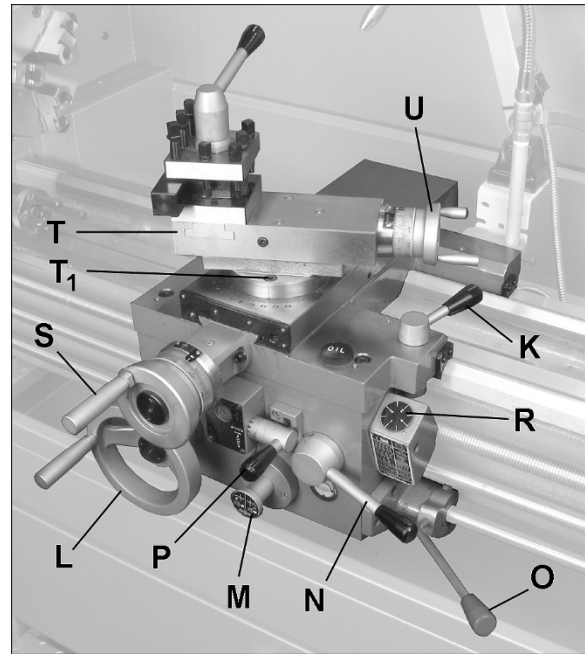
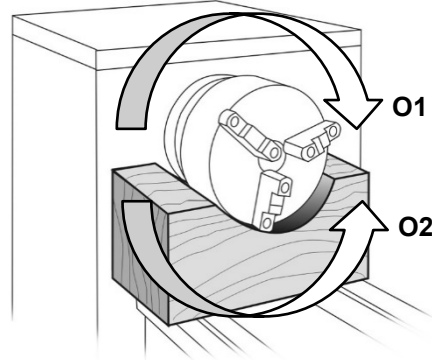

Figure 9-2 (cutting tool not provided)
Figure 9-3
Chuck should rotate counterclockwise, as viewed from tailstock, when spindle direction control lever (see O, Figure 9-2) is in down position. If rotation is opposite, disconnect power and switch any 2 of the power supply wires to the junction box.
7. **Carriage Lock (K, Figure 9-2):** Turn clockwise to lock, counterclockwise to unlock.
8. **Carriage Handwheel (L, Figure 9-2):** Rotate to manually move carriage assembly along bedways. A scale is mounted to the ring, graduated in 0.005-inch increments, and can be calibrated by rotating the ring as needed.
9. **Feed Direction Knob (M, Figure 9-2):** Push in for left-to-right motion; pull out for right-to-left motion.
10. **Half Nut Lever (N, Figure 9-2):** Engages leadscrew for threading operations – down to engage, up to disengage.
11. **Spindle Direction Control Lever (O, Figure 9-2):** Move lever to the right so that its tab clears the notch, then *down* for reverse (ccw) spindle rotation (O1, Figure 9-3), or *up* for forward (cw) spindle rotation (O2, Figure 9-3). Allow spindle to come to a stop before changing directions. Position lever in neutral position (tab in notch) before shutting off lathe.
12. **Power Feed Engagement Lever (P, Figure 9-2):** Engages powered operation. Push to one of three positions: LEFT and UP for cross feed operation (cross slide powered movement); RIGHT and DOWN for longitudinal operation (carriage powered movement); MIDDLE position allows engagement of half nut for threading.
13. **Threading Dial** (R, Figure 9-2): Indicates point on leadscrew where half nut can be re-engaged to continue inch threading.
14. **Cross Slide Handwheel** (S, Figure 9-2): Clockwise rotation moves cross slide toward rear of machine. The accompanying scale is graduated in increments of 0.001 inch (0.0254 mm) and can be calibrated by rotating the ring as needed.
15. **Top Slide**: Located atop cross slide (T, Figure 9-2); can be rotated 360° after loosening two socket head screws (T₁) in the circular base. Calibrations in degrees at the base will assist angle placement. Tighten screws (T₁) before operating.
16. **Top Slide Handwheel** (U, Figure 9-2): Rotate to position rest. The accompanying scale on collar is graduated in 0.001 inch increments.
- Before starting spindle, check that each handle or lever is at correct position to ensure normal engagement of gears. The spindle direction control lever (O, Figure 9-2) should be at neutral position.